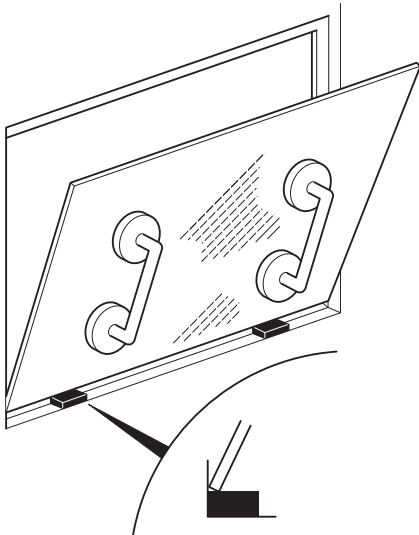

Fig 13.
- b Sit the bottom edge of the glass on the spacer blocks → Fig 13. (B-6).